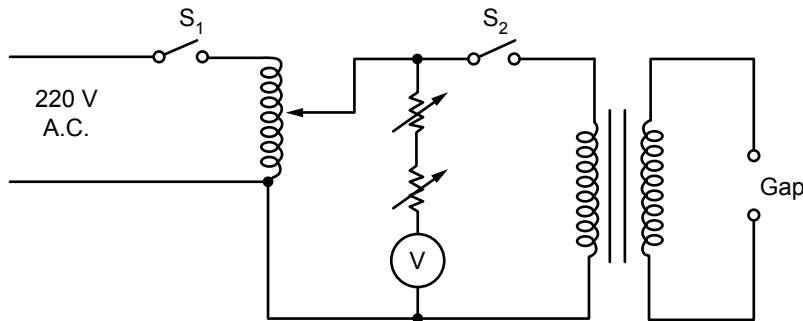

Figure 48.1 Circuit diagram.
1. **Volt-sec characteristics.** The relationship between the time of discharge and the amplitude of the applied voltage is called the volt-sec characteristic of the spark gap. The time of discharge depends not only on the amplitude of applied voltage, but also on the law of its variation with time. (Figure 48.1)